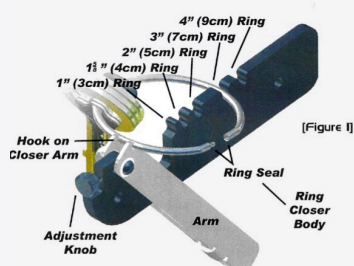

FIGURE 1
- 1 Place one side of the ring in the slot of the closing tool that matches the size. The tool has five slots, from 1 to 4 inch (figure 1).